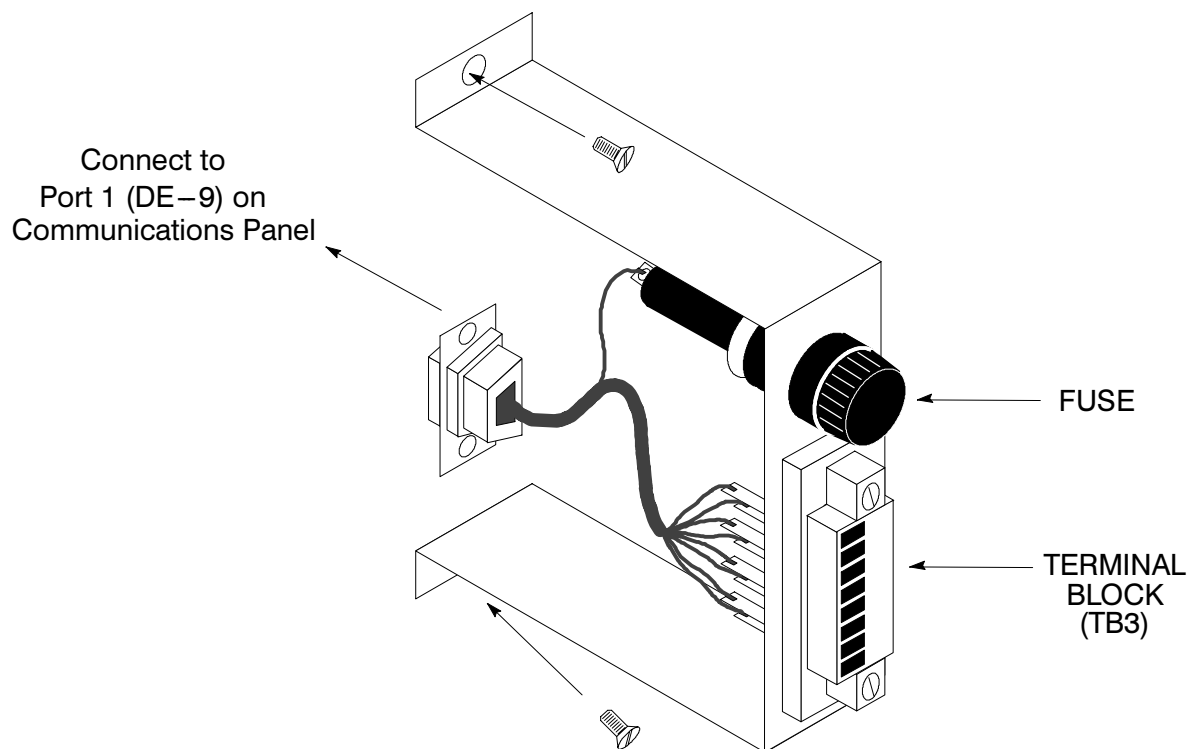
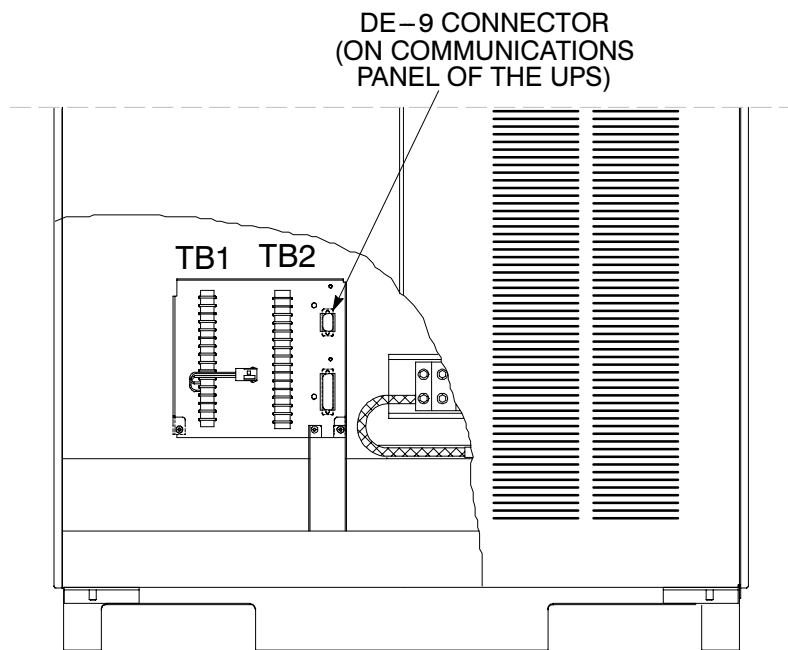

Figure 11. Terminal Block Bracket
Figure 12. Wiring an RIM to the UPS
3. If not already installed, locate the RMP adapter cable assembly (see Figure 11) in the spare parts kit. Mate the DE-9 connector on the back of the terminal block into the DE-9 connector on the Communications Panel of the UPS (see Figure 12). Use two screws from the spare parts kit to secure the terminal block bracket to the Communications Panel.